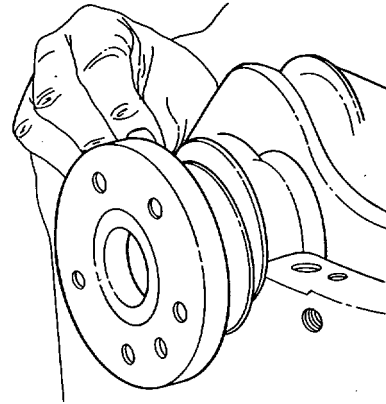

Figure 5-14. Thrust Washer Installation.
- (6) Install upper thrust washer halves (3) (see Figure 5-14).
- (2) Set crankshaft (2) in place.
- (3) Install upper thrust washer (see Figure 5-14).
- (4) Install three lower bearing shells (5) and lubricate them with clean engine oil.
- (5) Install main bearing cap.